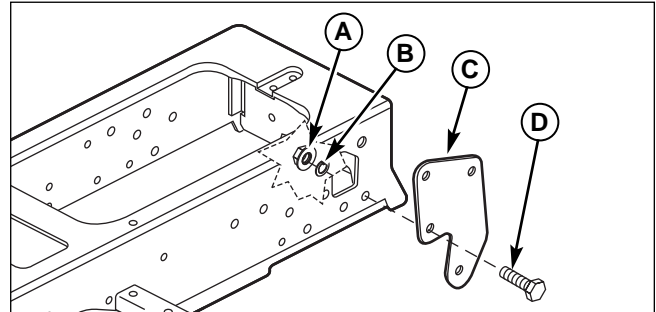

Figure 1. Install Side Brackets
1. Mount the side brackets (C, Figure 1) to both sides of the frame using the holes shown. Secure with one 3/8-16 x 1 capscrew (D), 3/8 lockwasher (B), and 3/8-16 nut (A) per side.